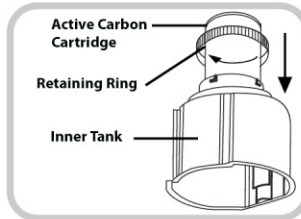

Fig.8
- To Install the Active Carbon Filter turn the Inner Tank upside down. Make sure the Large O Ring sits on top of the filter and place it on the Inner Tank. Slide down the Retaining Ring and align the pegs with the openings of the Inner Tank base. Turn it clockwise to secure the filter. (Fig. 8).